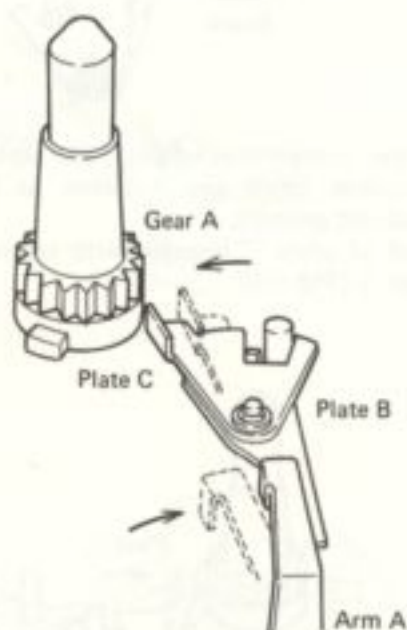

Fig. 16
2. Arm A pushes plate B and plate C above plate B contacts the raised convex portion of gear A (Fig. 16).